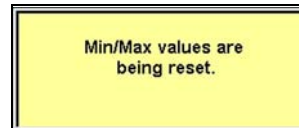

Figure 4-33 Sample Reset confirmation message
- A confirmation message displays (Figure 4-33).